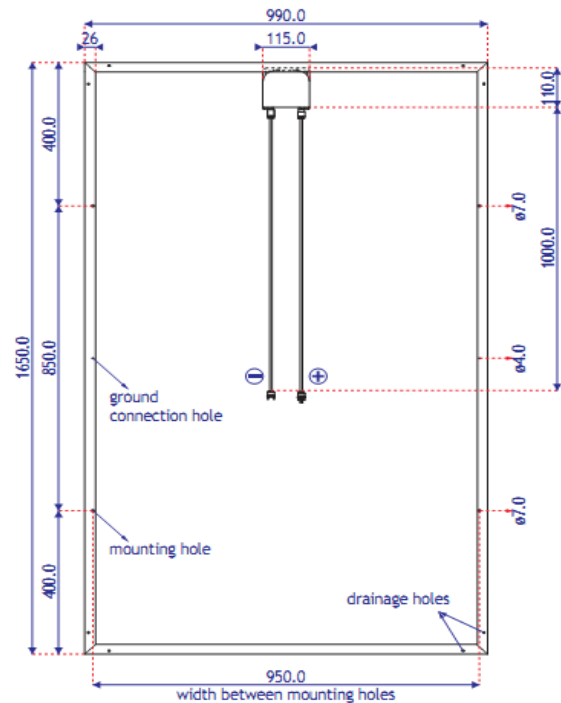

Fig. 3a: Mechanical drawing of an SLA module showing the mounting holes, the drainage holes, and the ground connection holes
- Use the 4 mounting holes (slots, see Fig. 3a/3b) on the PV module frame to bolt the module with M6 (1/4") stainless steel screws and nuts to the mounting framework.